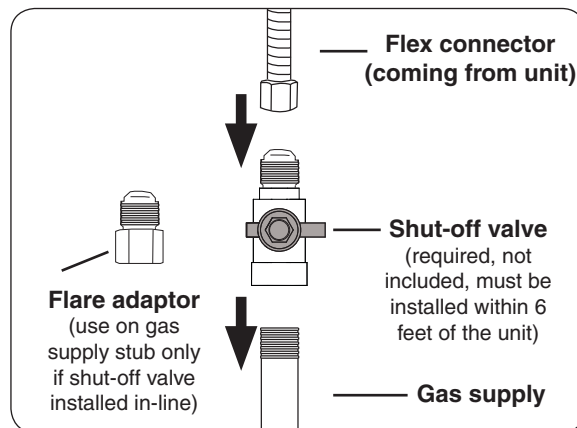

Fig. 21-1 Connecting to a gas line
- Connect the flex connector to the shut-off valve (see Fig. 21-1). Tighten securely.
- Install the supplied flare adapter to the gas supply using a pipe joint compound resistant to all gasses (see Fig. 21-1). Tighten securely.
- Connect the flex connector to the flare adapter (see Fig. 21-1). Tighten securely.